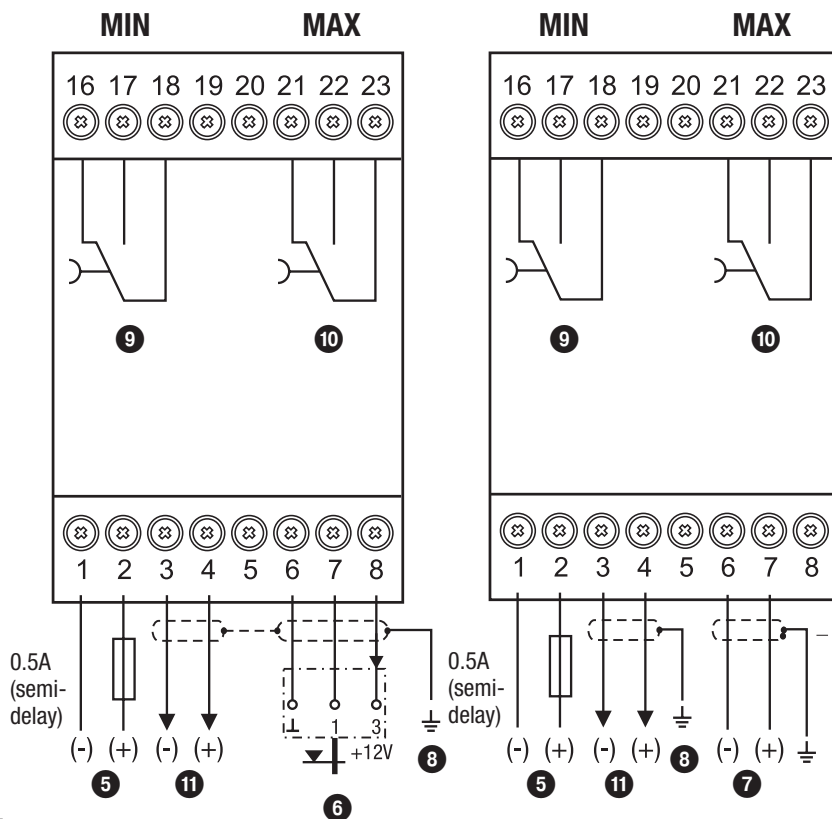

Fig. 5
- Remove the **lower** terminal strip. **Fig. 5**